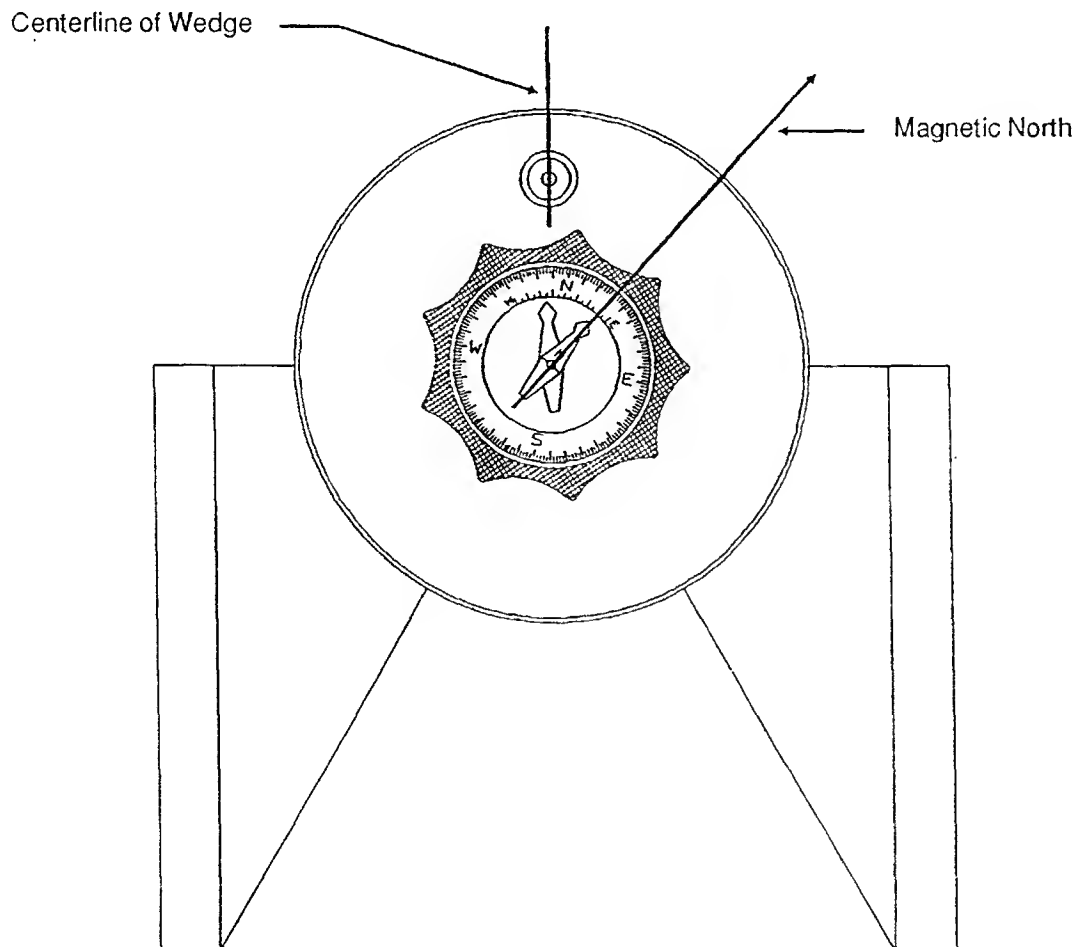

Fig. 5: Equatorial Wedge
1. Loosen the knob/compass slightly. This allows for rotation of the Equatorial Wedge under the knob/compass (Fig. 5). The magnetic pointing arrow will point to magnetic north.